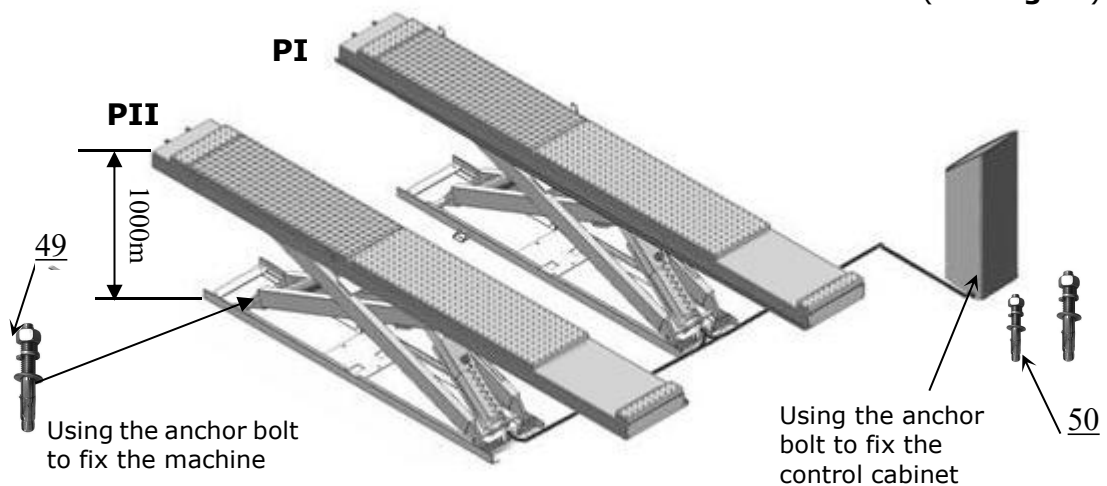

Fig. 33
- 2.1 Raise the lift to 1000mm then drill holes to install the anchor bolts (See Fig.33).